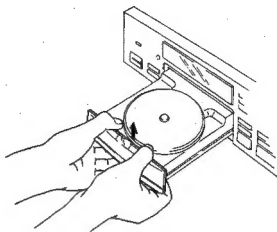

Fig. 1
- 1 Use nippers or other tool to cut the two sections marked ② in figure 1. Then remove the spacer.
- 2 While supporting the spindle motor shaft with the stopper, put spacer on top of the motor base (angled so it doesn't touch section ③), and stick the disc table on top (takes about 9kg pressure). Take off the spacer.
Hold the tray panel with your hands as the figure shown right, and grasp the tray with your thumbs and then lift the tray panel up while pulling it toward you with the other fingers. (Figs. 1 and 2)